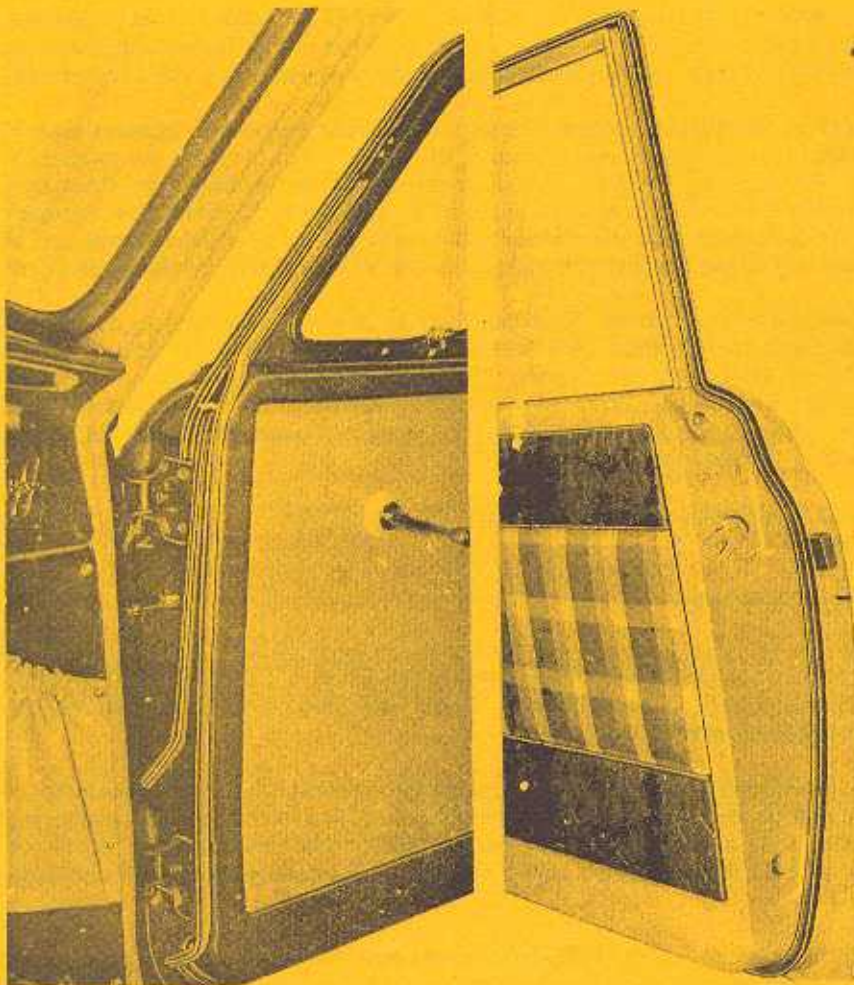

Fig. 4 - Door Weatherstrip Installation
b. Routing of Weatherstrip at Top of Door. (Fig. 4) Particular attention should be directed to the weatherstrip at the top of the door. If it is loose or requires replacement, it is essential that the installation of the weatherstrip be started by fitting the mitered cut in the new weatherstrip to the upper rear corner of the door window frame. The weatherstrip should be cemented on both surfaces that fit against the door, fitting the weatherstrip against the door flange along the top and down the rear edge of the door as shown in Fig. 4.